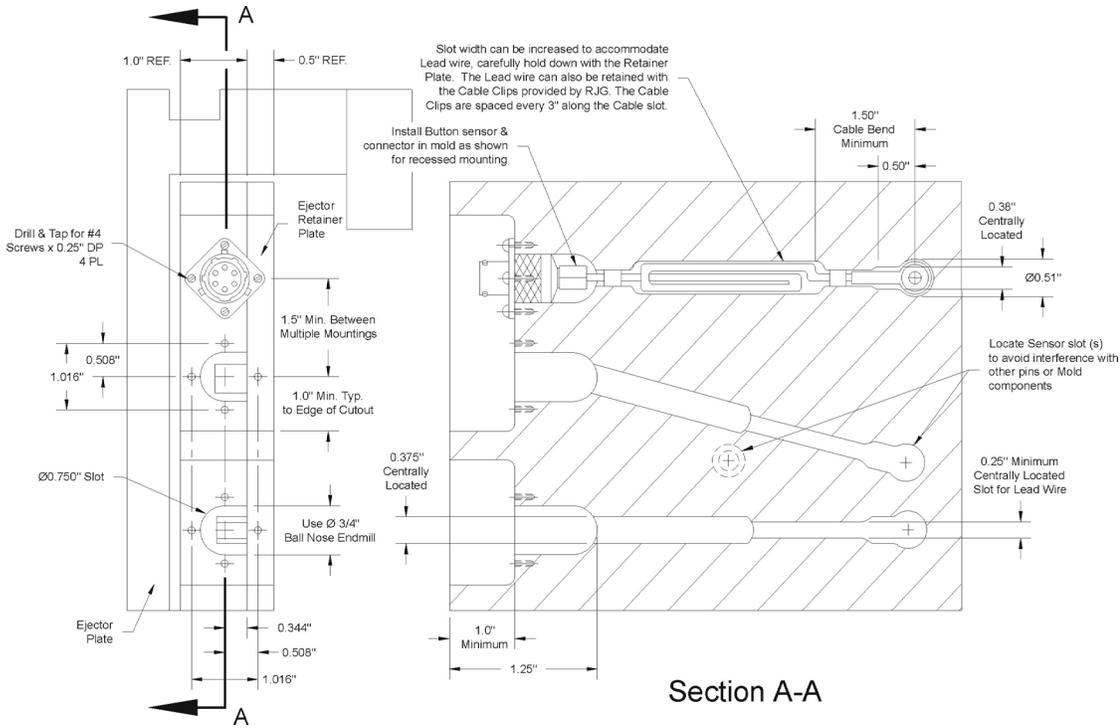

Figure 9: Recessed Mounting of the T-412, T-413 & T-414
- d. Prepare a pocket in the edge of the plate to recess the sensor connector for protection. The pocket must be large enough to allow the connection/disconnection of the cable when setting and removing the mold from the press (See Figure 9).
- e. If the sensor cable must be bent to accommodate obstacles in the mold, there must be a 1.50" minimum clearance (from the center of the button towards the connector end) before the cable can be bent. This will ensure that the wires will not be pulled out of the button (See Figure 9).